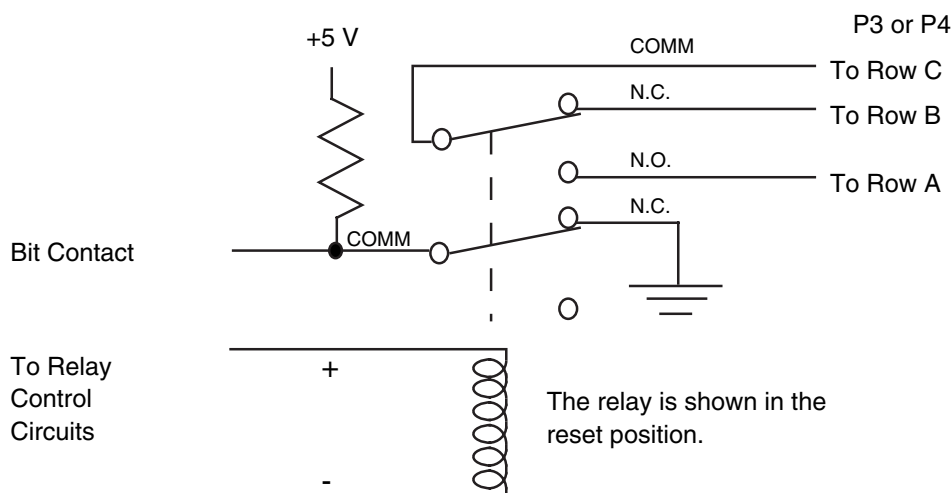

Figure 1. A Typical Relay Circuit
**Contact us:** (888) 88-SOURCE | [sales@artisanng.com](mailto:sales@artisanng.com) | [www.artisanng.com](http://www.artisanng.com)
**INTRODUCTION** — The VMIVME-2210 provides 64 *One Form C* (SPDT) contacts to the user via two 96-pin DIN connectors. These relays are the magnetic latching type which means that, once a contact is set it will remain set (even if power is removed from the relay) until it is reset. All three contact points are brought out via the connector. They are the N.O. (Normally Open), N.C. (Normally Closed), and the Common contact points. The N.O. and the Common can be used to create One Form A contacts while the N.C. and common can be used as One Form B contacts. The N.O. contacts are on Row A of the connectors and the common contacts are on Row C of the connector as shown in Figure 1. This arrangement permits 64-conductor cables to be used for Form A switches.